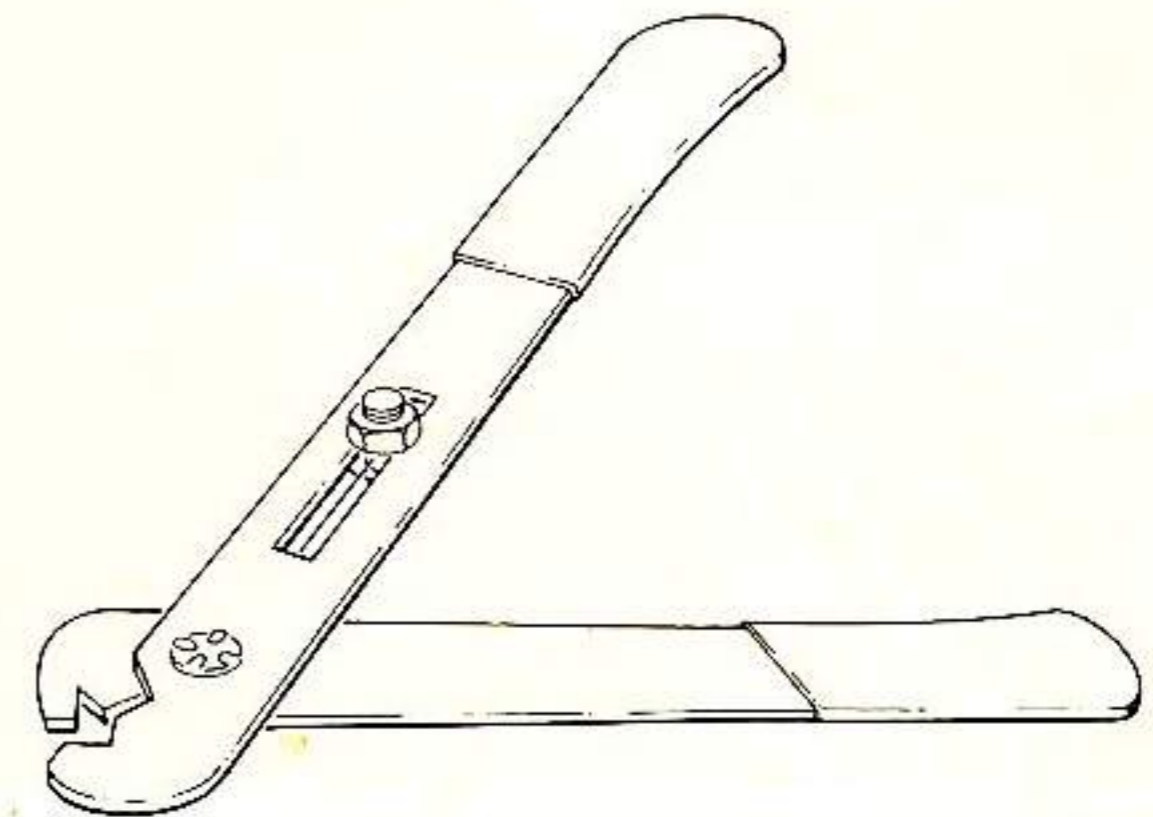

Figure 3. Improper Cutting Type Stripper
f. Certain types of cutting strippers must not be used under any circumstances. The type shown in figure 3 will invariably cut and nick strands of wire.